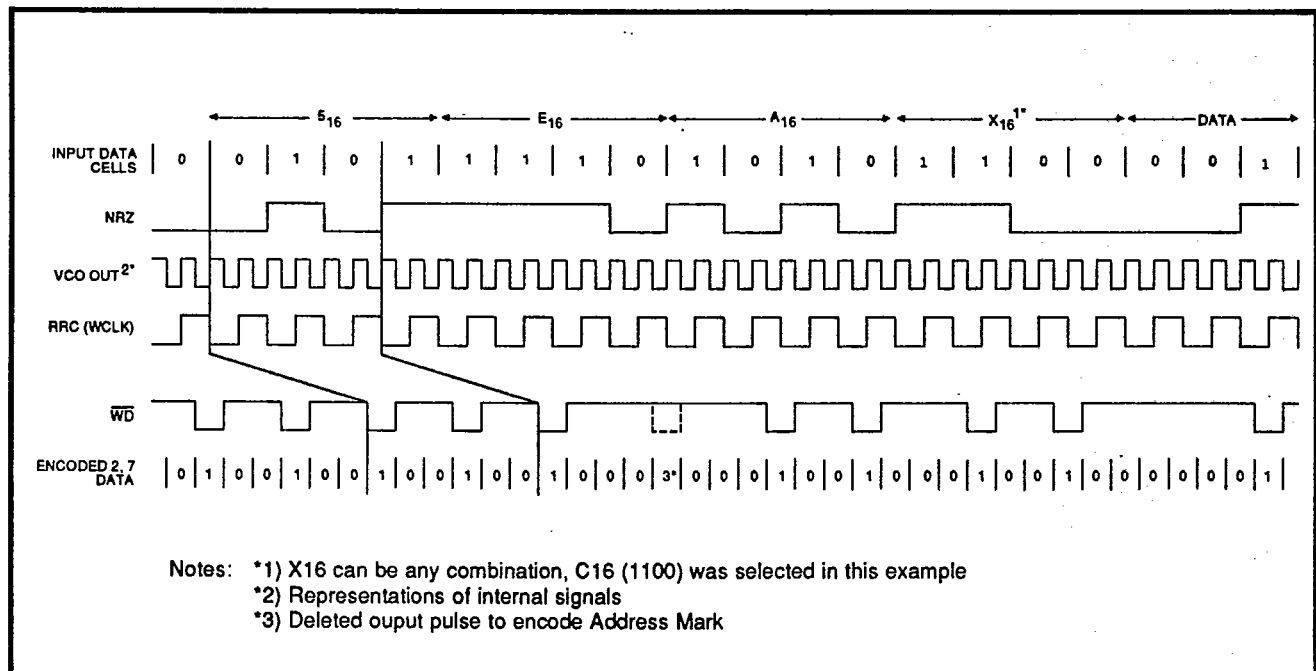

FIGURE 8: Write Address Mark Generation
In the Soft Sector Mode, when WRITE GATE (WG), transitions high and the NRZ input is held low, the SSI 32D5382 automatically generates the 3T (100) Preamble Field at the WRITE DATA ($\overline{\text{WD}}$), output. The 3T Preamble Field will continue to be generated until the first low to high transition on the NRZ line. As shown in Figure 8, the first low to high transition occurs with the second bit '1' of the 5₁₆ (0101) in the 5EAX₁₆ Address Mark generation pattern. To generate the Address Mark, the SSI 32D5382 automatically changes the '1' in the eleventh position (see note 3) of the 2, 7 RLL encoded sequence, to a '0'. This generates a pattern of seven zero's followed by two zero's. This unique pattern satisfies the 2, 7 RLL constraints, but will never occur during a normal encoding sequence. The x₁₆ of the 5EAX₁₆ Address Mark generation pattern can be selected, a 'C₁₆' (1100) was utilized in this example.